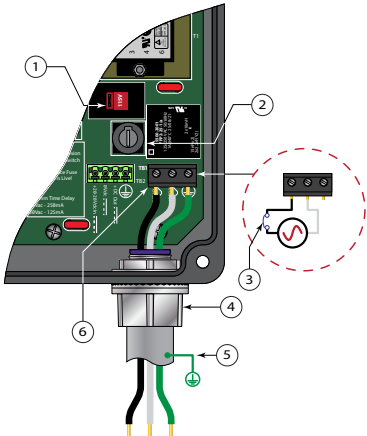
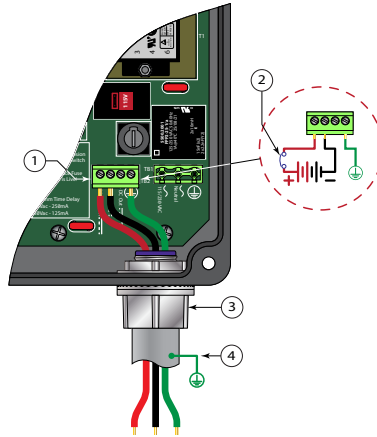

Figure 15: NEMA 4 AC power connections
Figure 16: NEMA 4 DC power connections
3. Is satisfied by either connecting the enclosure chassis through hard conduit. See *Figure 15 on page 18* or *Figure 16 on page 19*.
1. Verify that switch S1, the AC power selection switch, is set to the appropriate line voltage. The RCTN can be set for either 115V AC or 230V AC. See *Figure 15*.
3. Connect power to the screw terminal block TB1 in the RCT1000 transmitter using the conduit hole on the right side of the enclosure. Connect 115 or 230V AC, AC neutral and protective ground to the TB1 terminals referenced in *Figure 15*. Do not operate without a protective (earth) ground connection. Install using wiring practices that conform to regional, local and national codes. (For example The National Electrical Code Handbook in the U.S.; Canadian Electric (CE) Code in Canada.)
4. See *Figure 15* for AC connection schematic. Terminal blocks in the RCT1000 accommodate wire gauges up to 14 AWG.
1. Connect a 20...28V DC Class 2 power source as illustrated in *Figure 16*. Terminal blocks in the RCT1000 accommodate wire gauges up to 14 AWG.